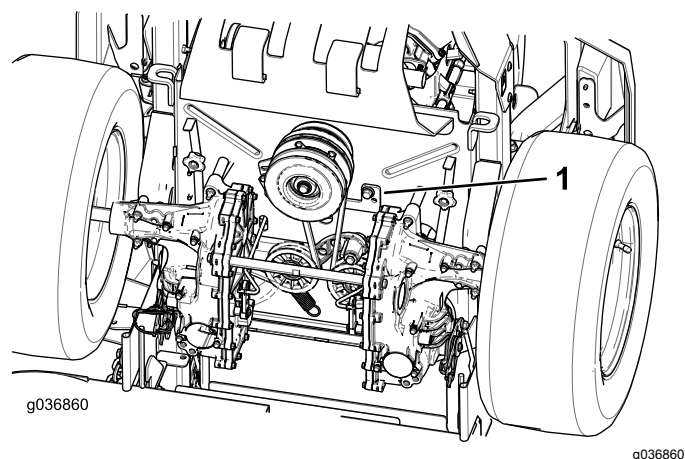

Figure 66
5. Remove the clutch stop (Figure 66).
9. Install the clutch stop (Figure 66).